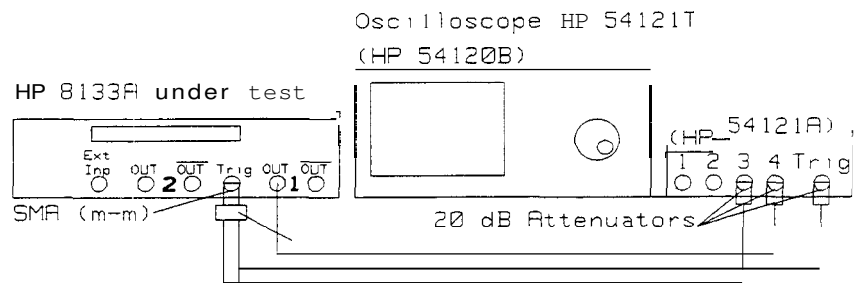

Figure 3-7. PULSE Channel Delay Test Set-up (Channel 1)
1. Connect the HP 8133A Pulse Generator to the oscilloscope as shown in Figure 3-7.